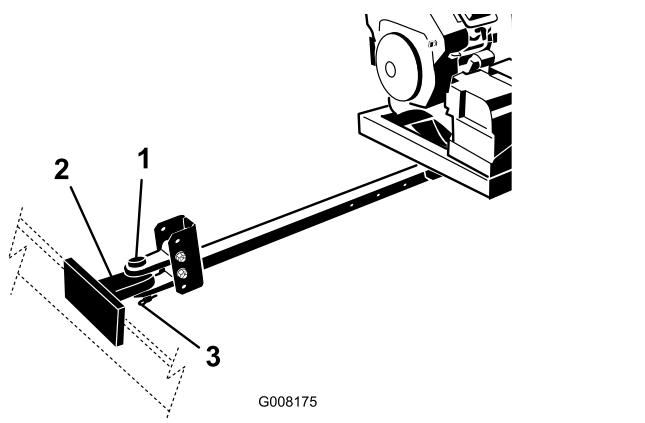

Figure 6
- Connect the blower hitch clevis to the tow vehicle hitch with the hitch pin and lynch pin (Figure 6).